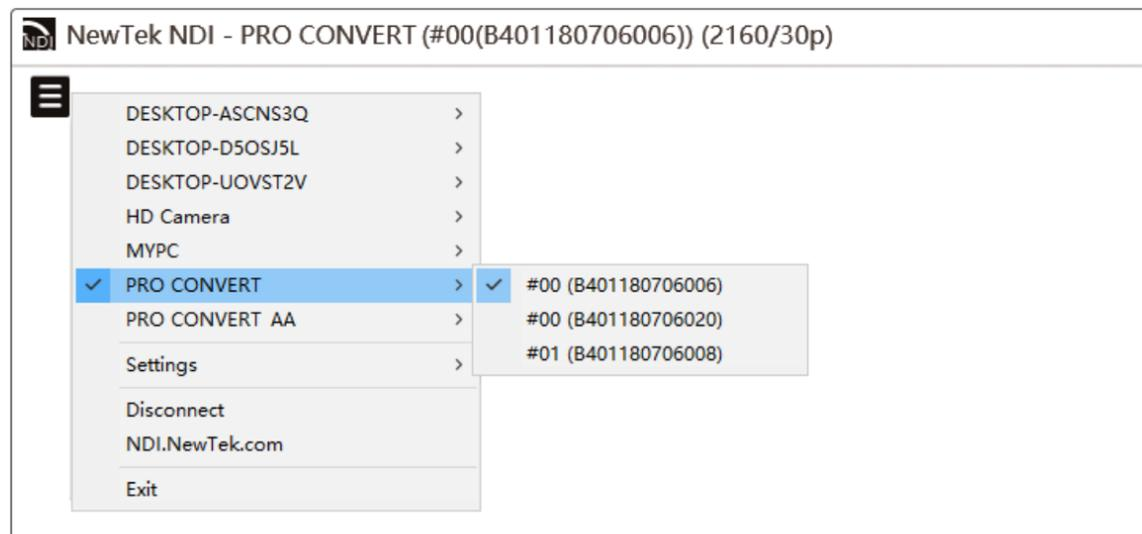

Figure1. Select NDI stream in NDI Studio Monitor
Step 1 Connect your converter via Ethernet and power it up as shown in the Figure1. Connections in Solution 1.